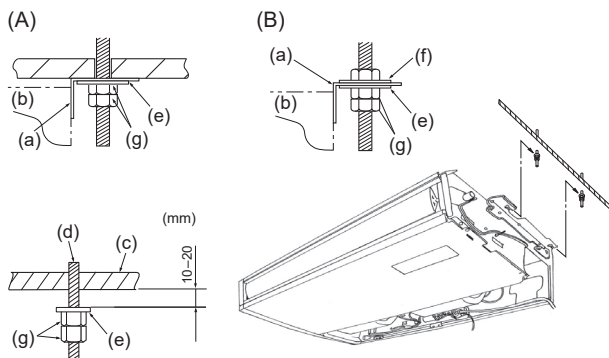

Fig. 3-5
- (D) Intake grille (J) Slide the side panel forward.
- (E) Intake grille holding knob (K) Side panel
- (F) Slide (L) Remove the side panel holding screws.
- (G) Hinge (M) Remove the protective vinyl of vane.
- (H) Pushing the hinge, pull out the intake grille.
(2) Forcing open the intake grille or opening it to an angle of more than 120° may damage the hinges.
3.3. Installing the indoor unit (Fig. 3-5)